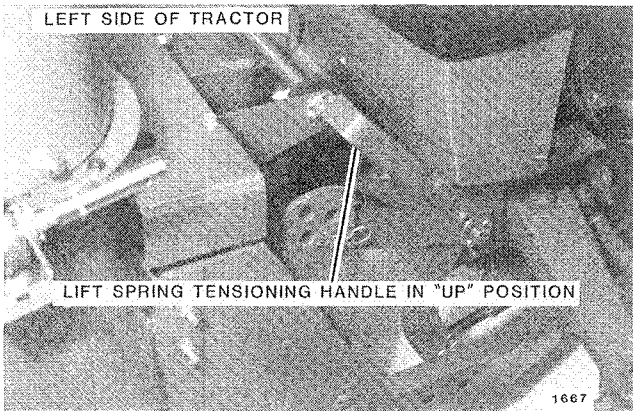

FIG. 23. MANDATORY - Handle in Up Position and Snowthrower Raised
**MANDATORY STEP:** Raise snowthrower all the way up with tractor lift and move lift spring tensioning handle to rest against hood (Fig. 23). **Note:** Spring is under severe pressure when snowthrower is in lowered position.